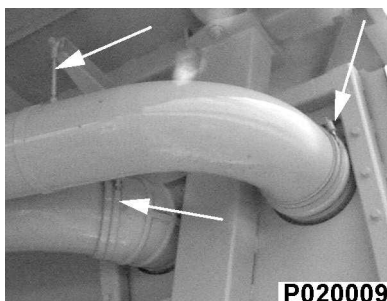

FIGURE 2-2.
8.	AIR INTAKE PIPING - Check all mounting hardware, joints, and connections. Ensure no air leaks exist and all hardware is properly tightened. Figure 2-2.